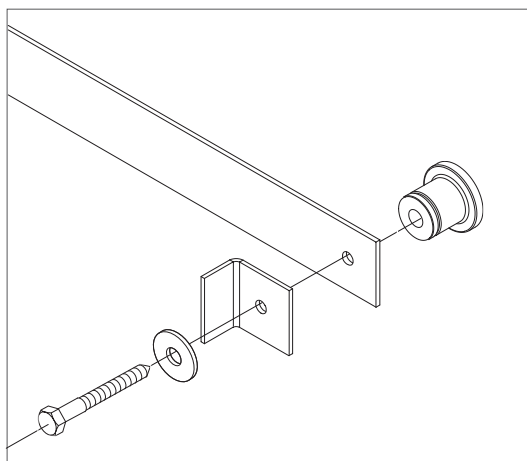

Figure 4
7. Attach one end of the track to the wall with one hard stop, one lag screw, and one washer (provided) using a socket wrench with 9/16" socket. (Figure 4). Do not tighten.